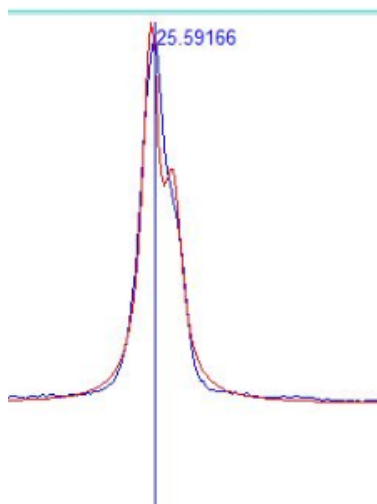

Figure 12. Example of calculated curve over measured curve
3. Examine the measured scan versus the calculated scan. The blue line is the measured values and red line is the calculated result. Ideally the red line lies over the blue line with the peak position in the middle (*Figure 12*).